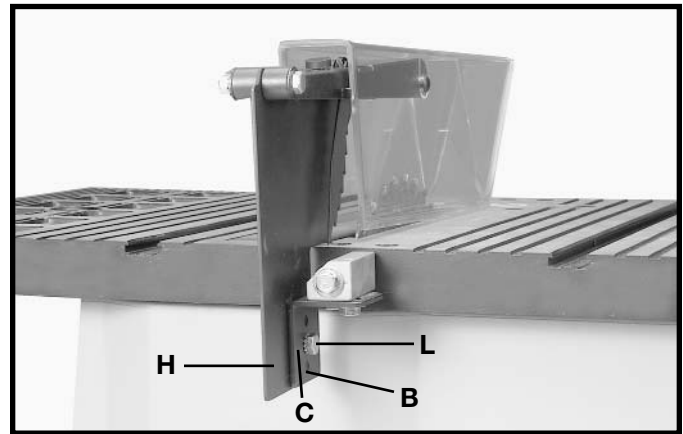
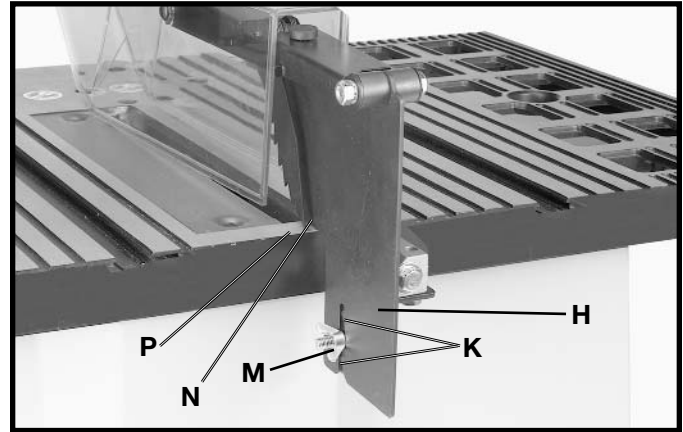

Fig. 14
Fig. 15
8. Assemble splitter (H) Fig. 14, to splitter support bracket (B) as shown. Place a 1/4" external tooth lockwasher then an M6.4 flat washer onto a M6x1x20mm hex head screw (L).
9. Insert screw (L) Fig. 14 through splitter support bracket (C) and splitter (H). Place a M6.4 flat washer then a 1/4" external tooth lock washer onto screw (L), and thread a M6x1 wing nut (M) Fig. 15 onto screw (L) Fig. 14.
NOTE: Before tightening wing nut (M) Fig. 15, make certain there is at least a 1/8" gap between the bottom edge of splitter (N) and top surface of table (P) and that protrusions (K), are inside the slot of splitter assembly (H).